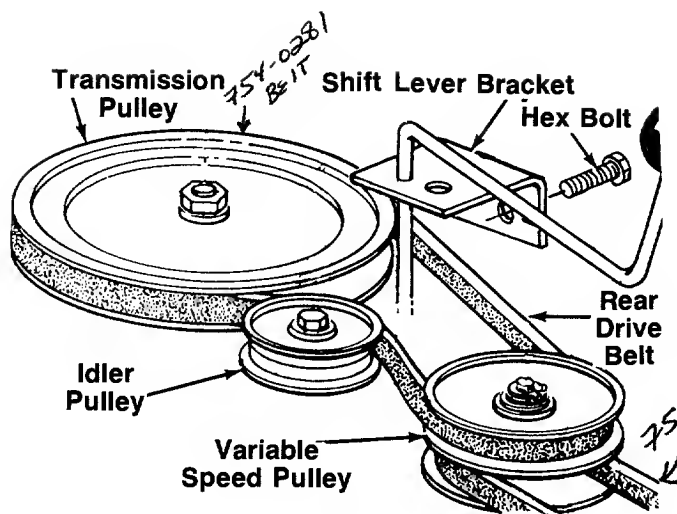

FIGURE 18.
3. Push the idler pulley toward the right side of the unit. Lift the belt over the idler pulley. See figure 18.
5. Remove the two bolts which hold the shift lever bracket to the frame on the left side of the unit. Swing the bracket toward the right so the belt can be removed from the transmission pulley. See figure 18.